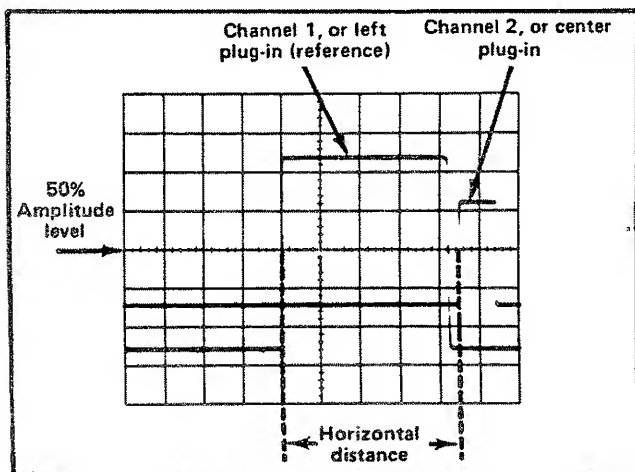

Fig. 1-10. Measuring time difference between two pulses.
10. Measure the horizontal distance between the two measurement points (see Fig. 1-10).